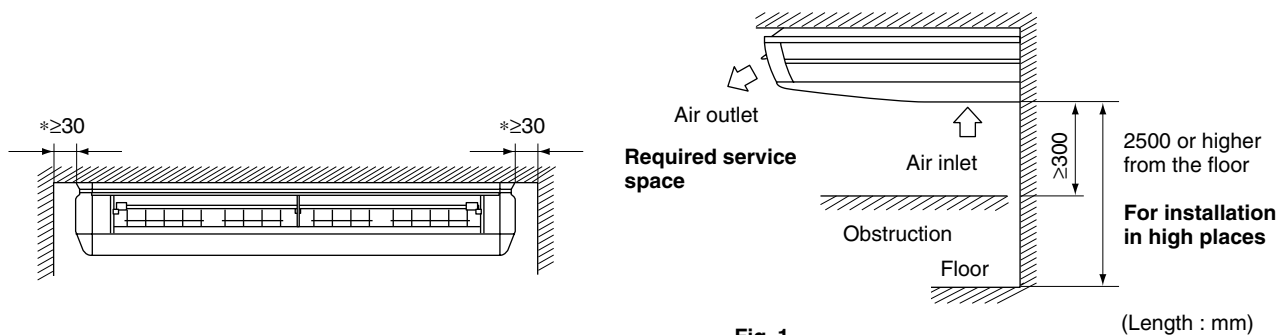

Fig. 1
**(1) Select an installation site where the following conditions are fulfilled and that meets your customer's approval.**
- Where sufficient clearance for maintenance and service can be ensured. **(Refer to Fig. 1)**